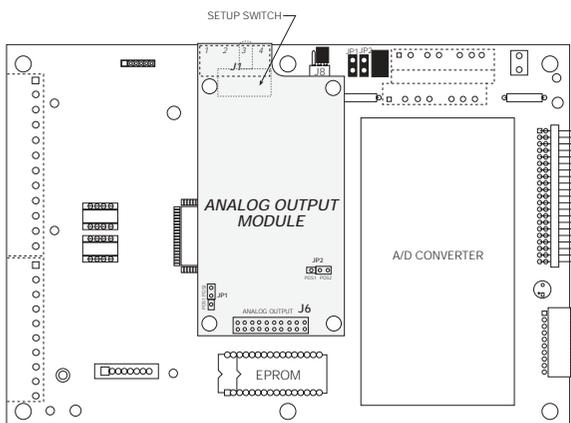

Figure 9-10. Analog Output Installed on CPU Board
Mount the analog output module on its standoffs in the location shown in Figure 9-10 and plug the module input into connector J6 on the CPU board.
**NOTE:** Ensure jumpers JP1 and JP2 are installed in position 2 (POS2, pins 2 and 3) as shown in Figures 9-10 and 9-11.